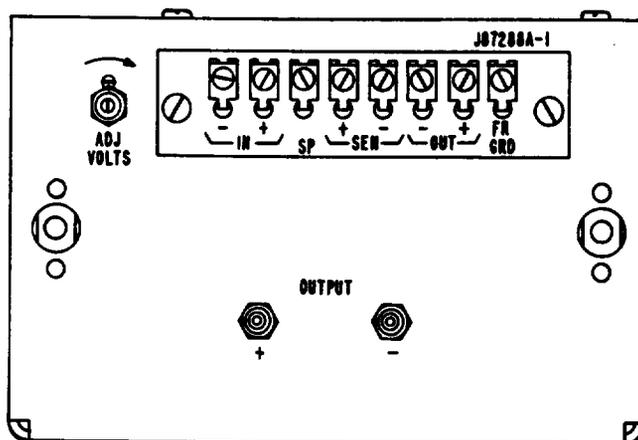

Fig. 1—DC-to-DC Converter (Front View)
- 3 Connect the voltmeter leads (observe polarity) to the OUTPUT + and - jacks on the front of the J87288A dc-to-dc converter (Fig. 1).
\* Voltmeter connected to converter OUTPUT + and - test jacks (Fig. 1).